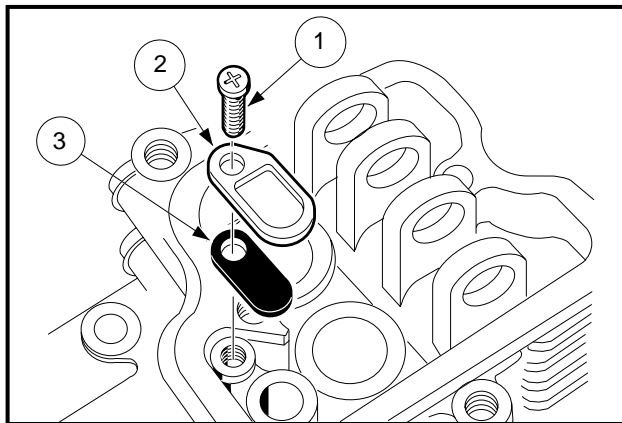

Figure 13-16 Reed Valve
1. Unscrew the mounting screw (1) and remove the back plate (2) and reed valve (3) (**Figure 13-16, Page 13-12**). See page 13-20 for Breather Valve Installation.